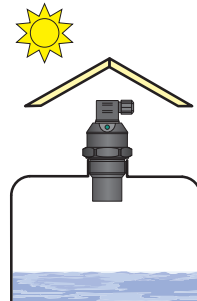

Fig. 15: Shielding cover against direct sunlight
- If installation in places with direct sunlight is inevitable, it is necessary to mount a **shielding cover** above the device (Fig. 15).